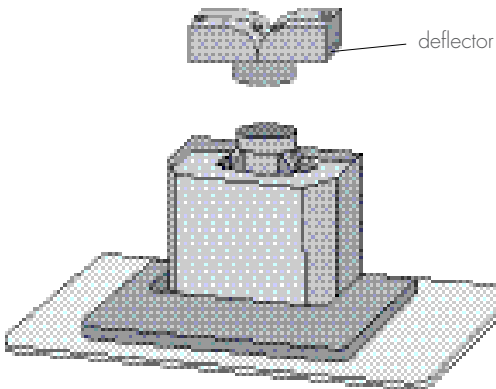

Fig. 7
5. **Recirculating mode** (Fig. 7). The air is filtered through a charcoal filter and returned to the kitchen. Using the centre line, secure the mounting brackets to the wall using suitable screws. Using the centre line secure the recirculating T-piece to the wall, at a height to match outlet grilles in the upper flue cover, with suitable screws. Install flue between T-piece and transition and secure using cable ties or duct tape.